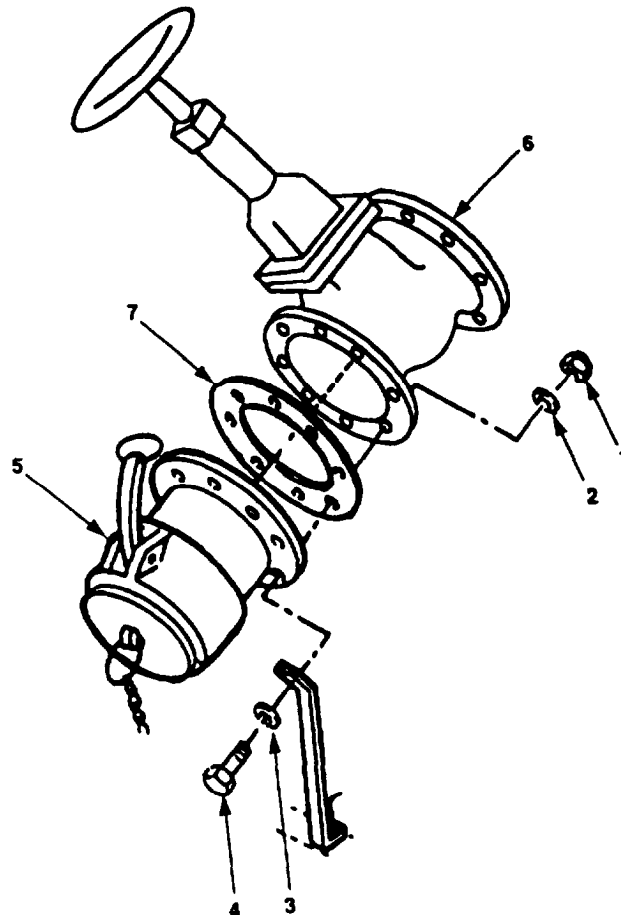

Figure 4-51. Coupling Half Maintenance.
- a. Remove eight nuts (figure 4-51, 1), lockwashers (2), one washer (3) and eight bolts (4) securing coupling half (5) to gate valve (6).
- b. Remove coupling half (5).
- c. Remove and discard gasket (7).
- a. Install new gasket (7) on gate valve (6).
- b. Position coupling half (5) against gate valve (6) and align mounting holes.
- c. Insert eight bolts (4) through holes in gate valve (6) and coupling half (5).
- d. Install one washer (3), eight new lockwashers (2) and nuts (1).